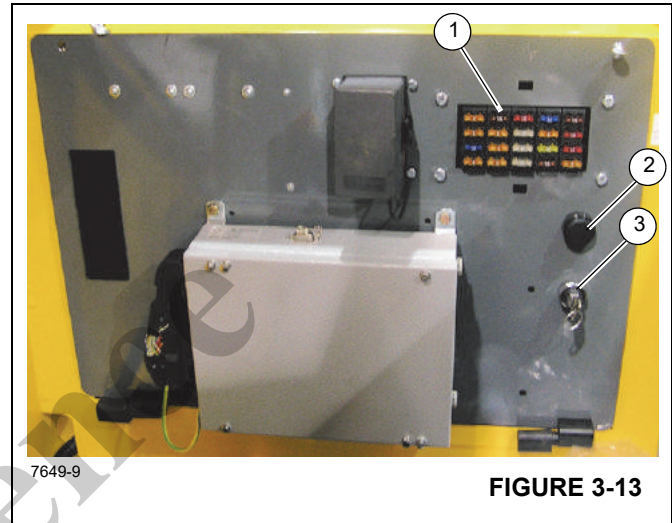

FIGURE 3-13
The fuse panel (1) (Figure 3-13) is located behind the cab seat and on the cab fuse and relay panel assembly. It contains up to 20 fuses that protect the various electrical components of the crane.
The RCL emergency override switch (3, Figure 3-13) is a key operated switch that is located inside the operator cab on the panel assembly behind the seat. When actuated (turned clockwise), the switch will override and prevent the RCL from locking out the three craning functions (boom down,